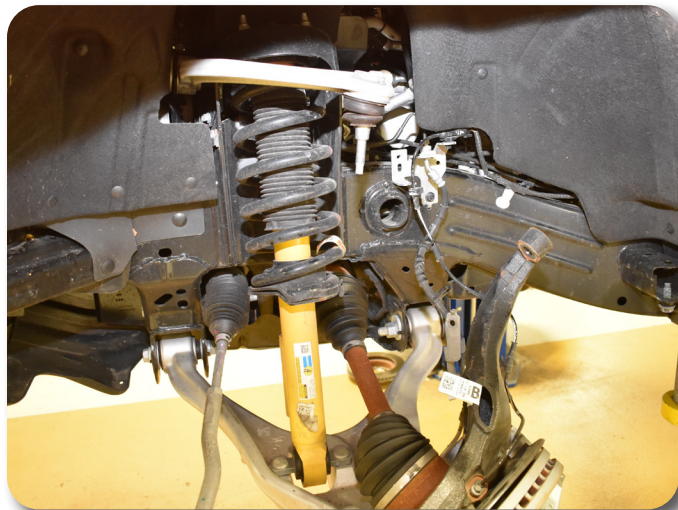

Figure 5
8. Remove the upper ball joint nut and thread back on a couple of turns by hand. Use a ball joint separator tool to dislodge the upper ball joint from the knuckle (204-592 tool recommended). Be careful not to damage the boot. **Figure 5** Remove the nut and remove the ball joint from the knuckle. Allow the knuckle to rest back away from the front strut.